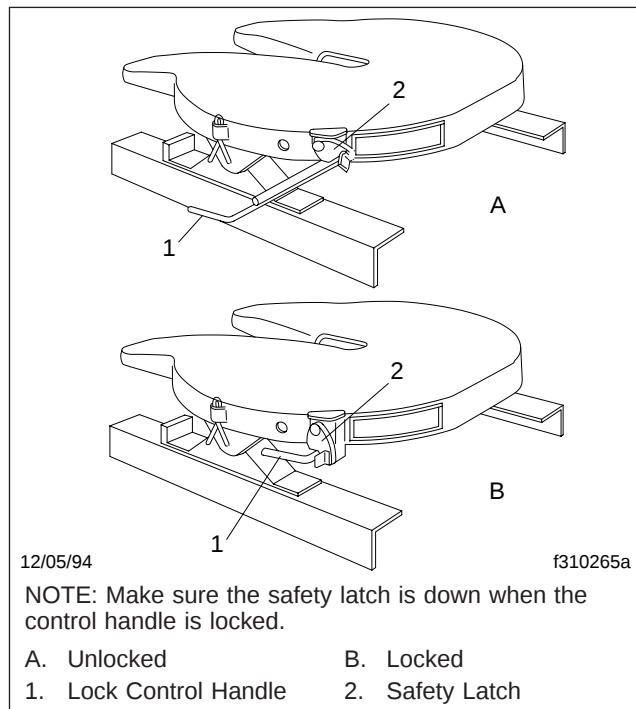

Fig. 11.6, Fontaine Fifth Wheel, Locking and Unlocking
6. Make a visual and physical check for positive kingpin lockup. When lockup has occurred, the fifth wheel control handle will have moved to the locked position. Make sure that the safety latch is down over the lock control handle. See Fig. 11.6. This will hold the control handle in the locked position.
6. Release the kingpin locking mechanism by lifting the safety latch and pulling the lock control handle to the unlocked position. See Fig. 11.6.